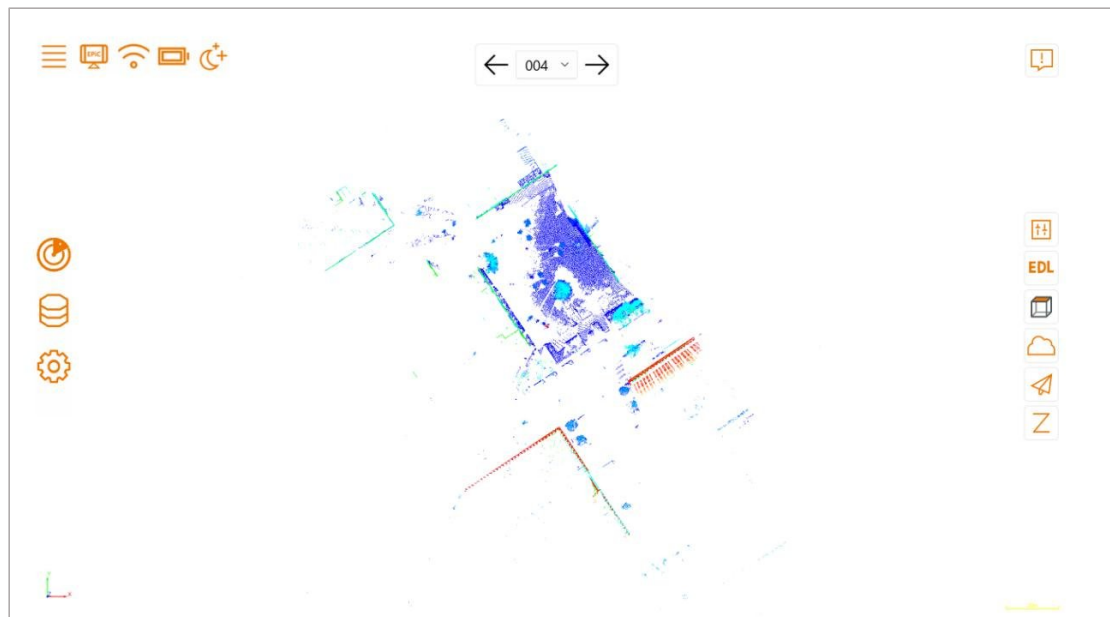

Figure 4-16 Single Station View
- ① Hide: Hide the point cloud of the selected scan station. The option then changes to “Show”. Tap again to re-display the station point cloud.
- ② Show in Single View: Display only the point cloud of the current scan station. Use the “Switch” button at the top to toggle between scan stations, as shown in Figure 4-16.